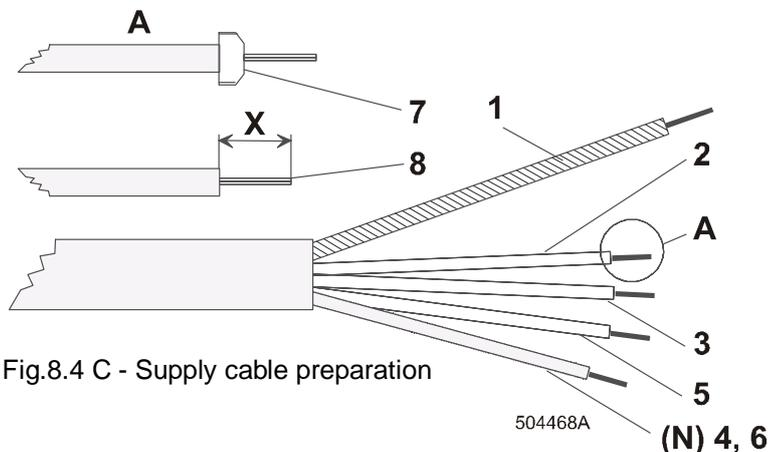

Fig.8.4 C - Supply cable preparation
When using the cable (hard copper conductors), strip the individual cores in such a way to avoid the protrusion of a stripped part from the terminal when the conductor is connected into the device (fig.8.4.C., pos.8 - dimension X). When using a cord (stranded copper conductors) the individual cores can be stripped in a similar way as in the case of a cable, or moulded tubes (7) can be used. In this case use tubes with an insulated neck to avoid any contact to a part under current after the conductor connection.